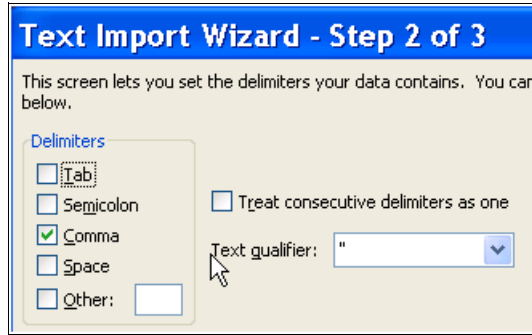

Figure 9 File that is created is comma delimited
- In the next dialog, which is shown in Figure 9, you can select the delimiter character. We selected the comma in our script (you might choose something else). Select the check box next to **Comma** and click **OK**.